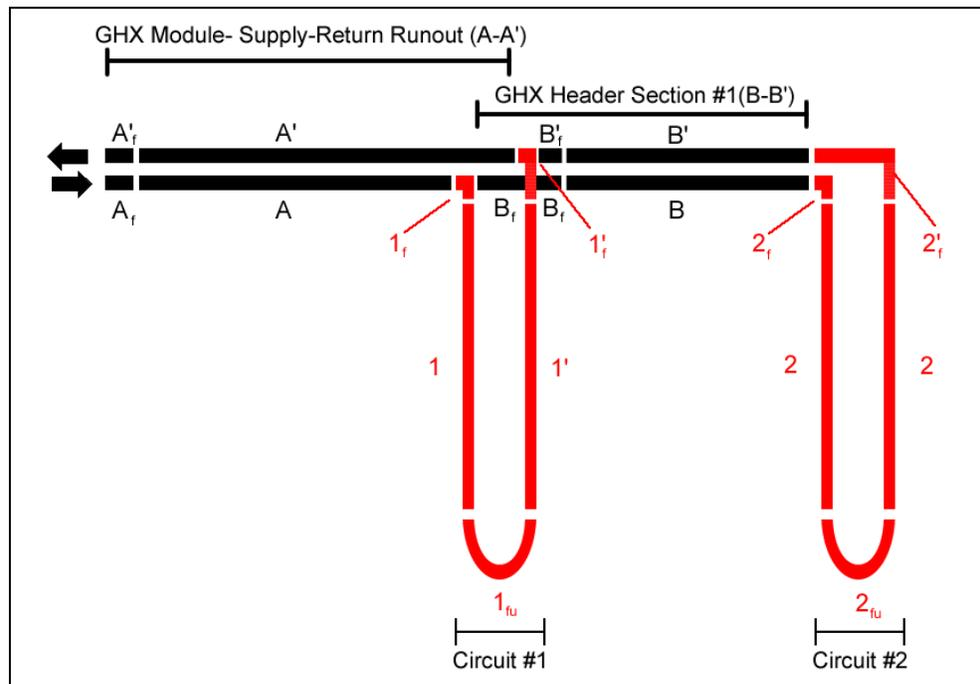

Fig. 11.61 Basic Direct Return Loopfield Layout 1
Figure 11.61 is an illustration of a direct return, two GHX Circuit GHX Module. The Supply-Return Runout, GHX header section and their associated fittings are in black. The GHX Circuits and their associated fittings are in red. *Note that pipe and fitting lengths within a single component do now have to be the same length. For example, the return pipe of the Supply-Return Runout (A') is longer than the supply pipe of the Supply-Return Runout (A).*
Note that in figure 11.61, the layout consists of a combination of the two components: the pipe pair and the GHX Circuit. Also note that for both circuits 1 and 2, the fittings for attachment to the return header pipes ($1'_f$ and $2'_f$) are longer than those attached to the supply header pipes (1_f and 2_f). There is no requirement that each subcomponent in a particular component has a uniform length. Indeed, the designer has as much control as he or she desires.
In figure 11.61, a parallel flow path occurs where supply pipe A of the GHX Module Supply-Return Runout branches into two components: Circuit #1 and supply pipe B of GHX Header Section BB'. The fluid flows in Circuit #1 and supply pipe B of GHX Header Section BB' therefore are in parallel. Circuit #1 and supply pipe B of GHX Header Section BB' are siblings because they share the same parent. In the CFD Layout Manager Workspace, parallel flow paths or siblings are *vertically stacked* directly above one another. This can be seen in figure 11.62 where Circuit #1 is directly above GHX Header Section BB'.
In figure 11.61 a series flow path occurs where supply pipe B of GHX Header Section BB' continues into Circuit #2. The fluid flow from supply pipe B of GHX Header Section BB' to Circuit #2 is therefore in series. Supply pipe B of GHX Header Section BB' is the parent of Circuit #2 and Circuit #2 is the child of supply pipe B of GHX Header Section BB'. In the CFD Layout Manager workspace, serial flow paths or parent/child relationships are *stacked with indentation*. This can be seen in figure 11.40 where Circuit #2 is one level below the GHX Header Section B and indented. What this means is that Circuit #2 is connected to GHX Header Section B in series.